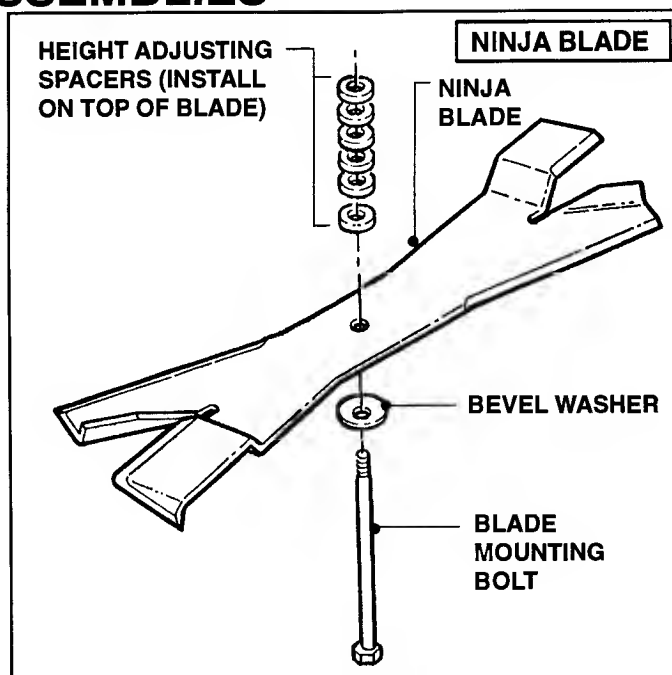

FIGURE 4.12
Regardless of the location of the Blade Spacers **when the blade is removed, all** spacers should be placed at the bottom of the spindle when replacing the blade. This arrangement will provide an "low-as-possible" cut. See Figure 4.12, Page 4.7.
- Install all Spacers on top of Blade. See Figure 4.12.